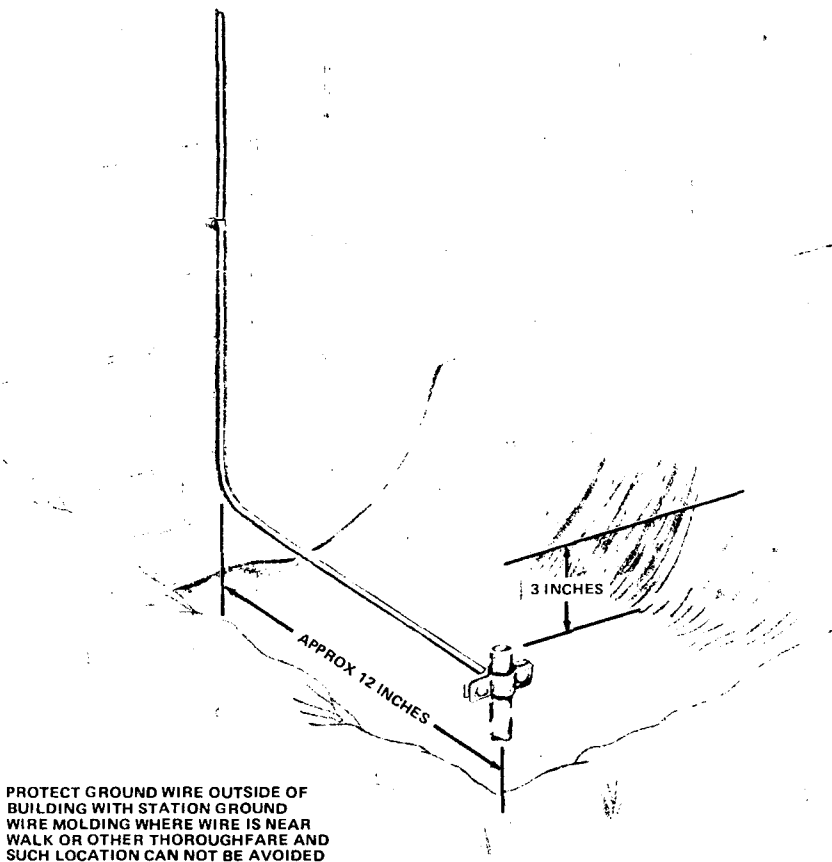

Fig. 60—E Ground Rod Installed Near Wall
- (c) Approximately 12 inches from outside walls (Fig. 60)